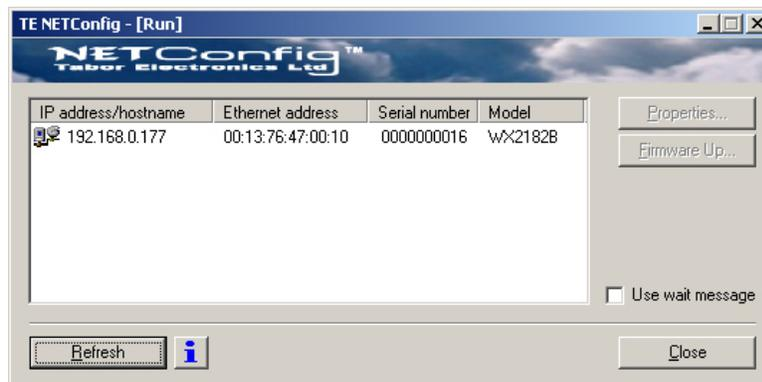

Figure 6-6, WX2182B has been Detected on the LAN Network
5. As soon as the progress bar reaches the far right-hand side of the bar, click on the Refresh button. If your device was connected and booted correctly, the device address will appear in the device list, as shown in Figure 6-6.